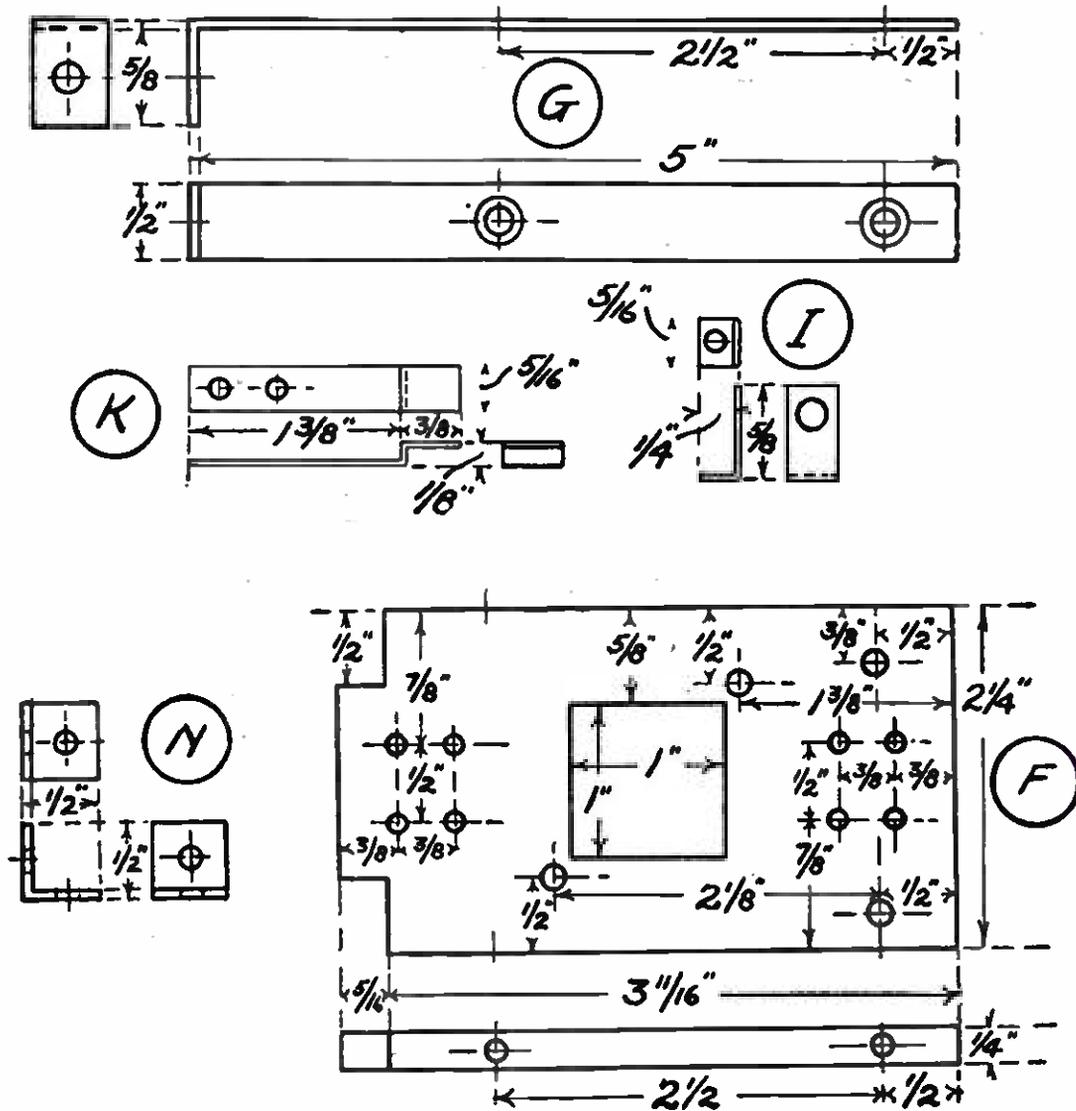
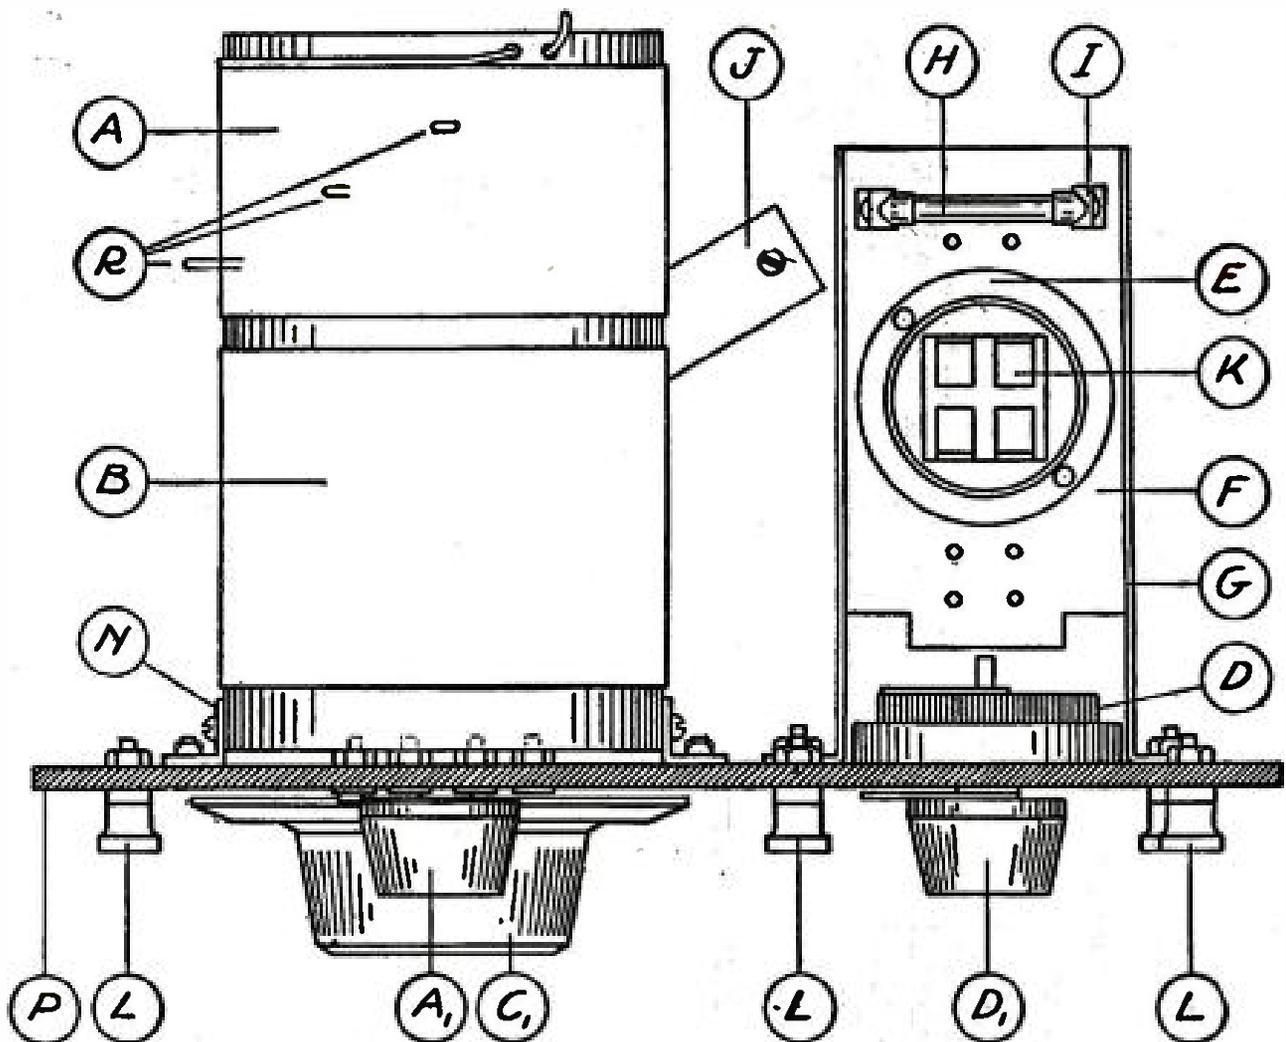
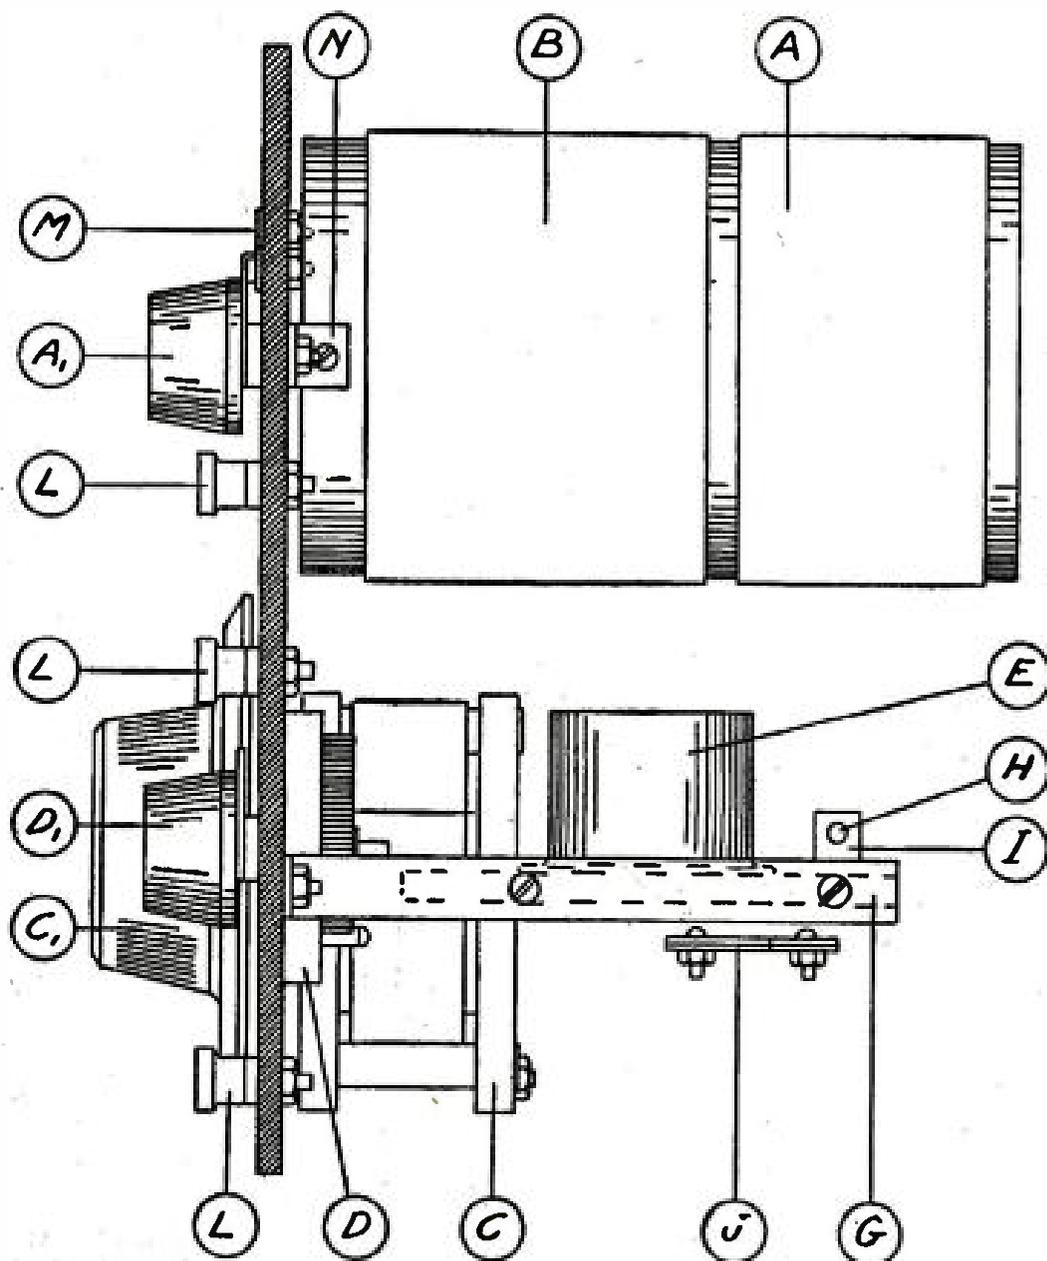
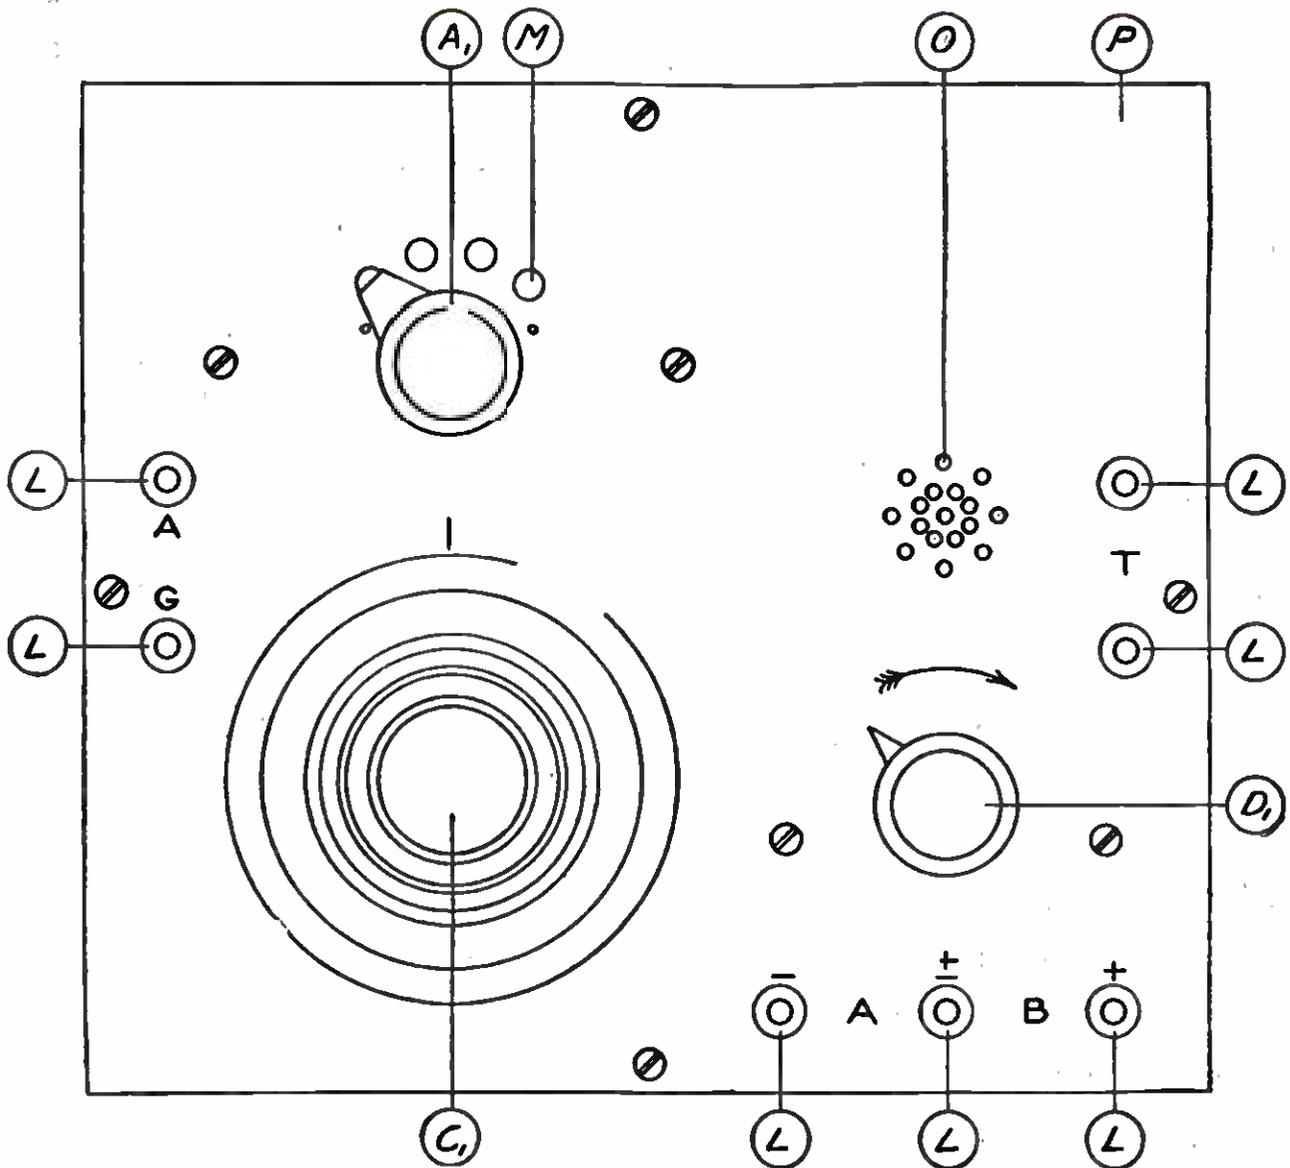

FIGURE 2
FIGURE 3
FIGURE 4
FIGURE 5
- F—shelf panel, see Figures 2 and 3, 4 and 6.
- G—brass angles for supporting the socket shelf. (See Figures 2, 3 and 4.)
- I—small phosphor-bronze angles for mounting grid leak. (See Figures 2 and 6.)
- K—phosphor-bronze contact fingers, for sockets. (See Figures 2, 3 and 4.) A regulation socket may be used instead of E and K.
- M—switch points. (See Figures 5 and 6.)
- N—small brass brackets. (See Figures 2, 4 and 6.)
- O—peep-holes viewing the filament of the vacuum tube. (See Figures 5, 6 and 7.)
- R—taps on the primary coil for antenna tuning. (See Figures 3 and 8a.)
After all the instruments for building the receiver are procured, the amateur should set about preparing the panel P shown in Figures 3, 5, 6 and 7.
Next, the condenser C should be mounted in the lower left-hand corner by means of two screws fastened through the panel, as shown in Figures 4, 5 and 6. The large dial (C1) should then be fastened to the shaft of the condenser as shown in Figures 4 and 5.
The rheostat D should then be mounted in the proper place with two screws (see Figures 3, 4 and 6), and the small dial D1 should be attached to it. (See Figures 4 and 5.)
serted through the panel and fastened tight by means of nuts on the rear of the panel P, as shown in Figures 3, 4, 5 and 6.
The next step is the preparation of the shelf assembly F. This shelf panel should be cut to the correct size (see Figure 2) and should have two brass strips G (Figure 2) fastened along its sides, as shown in Figures 3, 4 and 6.
A square hole should be made in the shelf (as shown in Figure 2) for the socket, and the holes for the screws which secure the contact fingers K to the shelf should be bored and tapped. The fingers K are then fastened in place on the under side of the panel and the socket spinning E should be screwed down on the top of the panel F by means of two screws, as indicated in Figures 3 and 6. As an alternative, an ordinary socket may be used and secured to the shelf if the builder does not wish to make the socket himself.
(see Figure 2) and fastened as shown in Figures 3, 4 and 6. The grid leak H should be inserted in the two holes made in the contacts I for that purpose.
Mount the shelf F on the main panel P by means of two screws through the brass brackets G and the two holes in the panel on either side of the rheostat knob D1. The flathead screws are inserted through the panel and fastened on the rear by brass nuts, as shown in Figures 3, 4 and 6.
One quarter of an inch beyond the last two holes bore two more starting holes for coil A and proceed in the same manner as with coil B, except that four taps are taken off, one at the 15th turn and one every 10th turn thereafter, as shown in Figures 3 and 8b; finish off in the same way as with coil B.
Now make the small brass angles N, as shown in Figure 2, and fasten the tube to the panel P. (See Figures 3, 4 and 6.)
Next, insert the four switch points M through the panel P and fasten with nuts on the rear of the panel. (See Figures 5 and 6.) The antenna switch knob A1 is fastened in place as shown in Figures 3, 4 and 5 and then the assembly work is complete except for making the grid condenser J. (Complete instructions for doing this were given in the